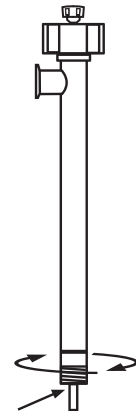

Figure 5
5. Remove the Pump Housing by turning clockwise (see Figure 5).